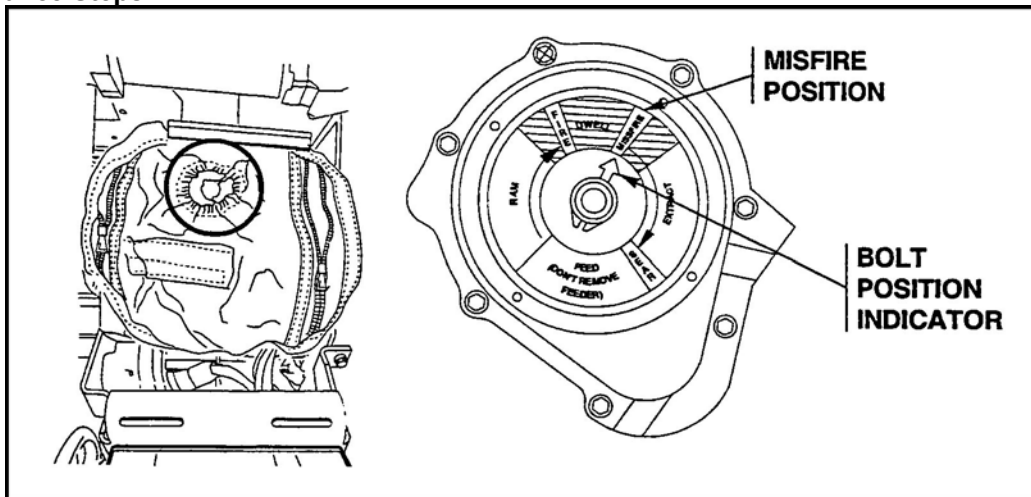

Figure 23. Bolt position indicator (BPI) in misfire position.
- (e) Observe the bolt position indicator (BPI) and ensure the arrow is in the misfire position (Figure 23).